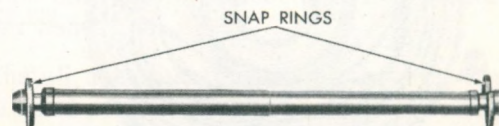

Fig. 129—Positioning Governor Valve Shaft Snap
69. After snap ring installation, apply sufficient pressure to both ends of the valve shaft to force snap rings to outer portion of snap ring grooves. (See Fig. 129). Check operation of governor weight assembly and valve by turning output shaft. Both should fall freely in governor body.